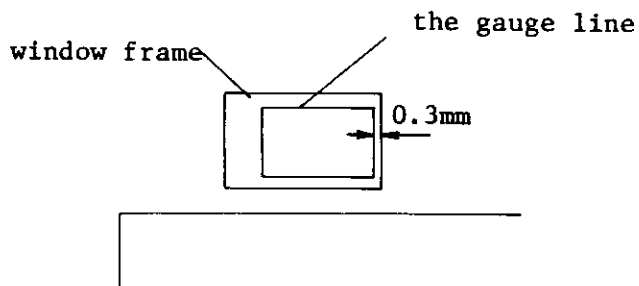

fig. 3
- [C] Make sure that the window shows an aperture figure properly in the center, and that the next figure should not be insight. When use J18063, the guideline should be visible 0.3mm from the window edge line. (Fig. 3)